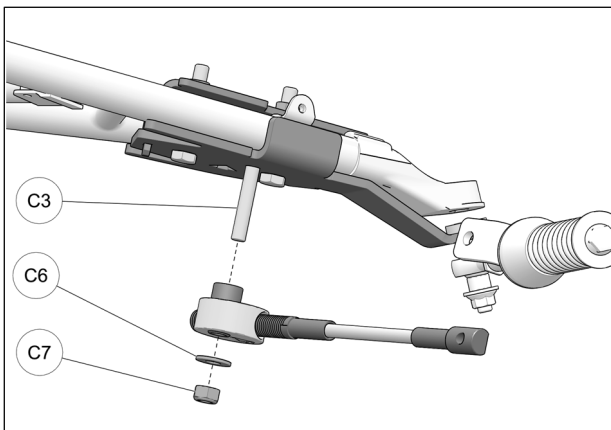

Fig. 26
16. Slip steering limiter cable assembly over bolt (C3) and use washer (C6) and nut (C7) to secure assembly to anchor bracket. Tighten nut to 50 N•m [37 lb•ft]. Refer to Fig. 26